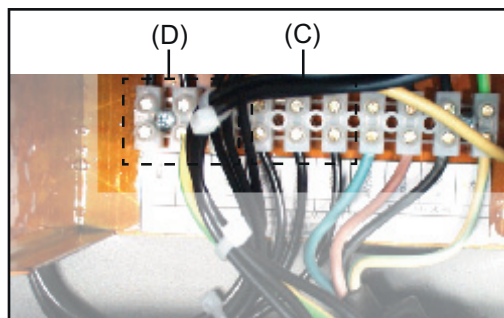

Fig.5 Converting auto-transformer to 480 V
- 4 On the terminal strip (near the socket) in the „500 V area“ (C), disconnect phase conductors (L1, L2, L3) (Fig.5)
- 5 Connect phase conductors (L1, L2, L3) to the three outermost connections, „480 V area“ (D), on the terminal strip (Fig.5)